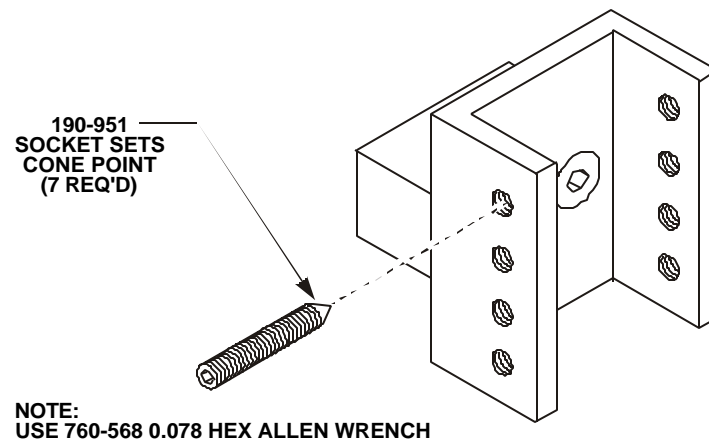

Figure 6
- *Irregular shaped mineralogical samples should be secured in the irregular specimen holder and then secured in the vise (figure 6, page 25).*